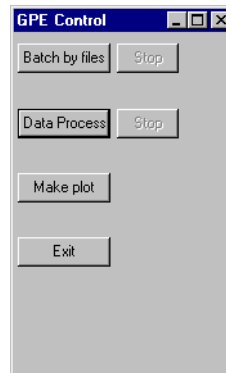

Figure 6.9: Make a Plot and Exit
2. When the plot utility stops running, choose Exit (Figure 6.9).